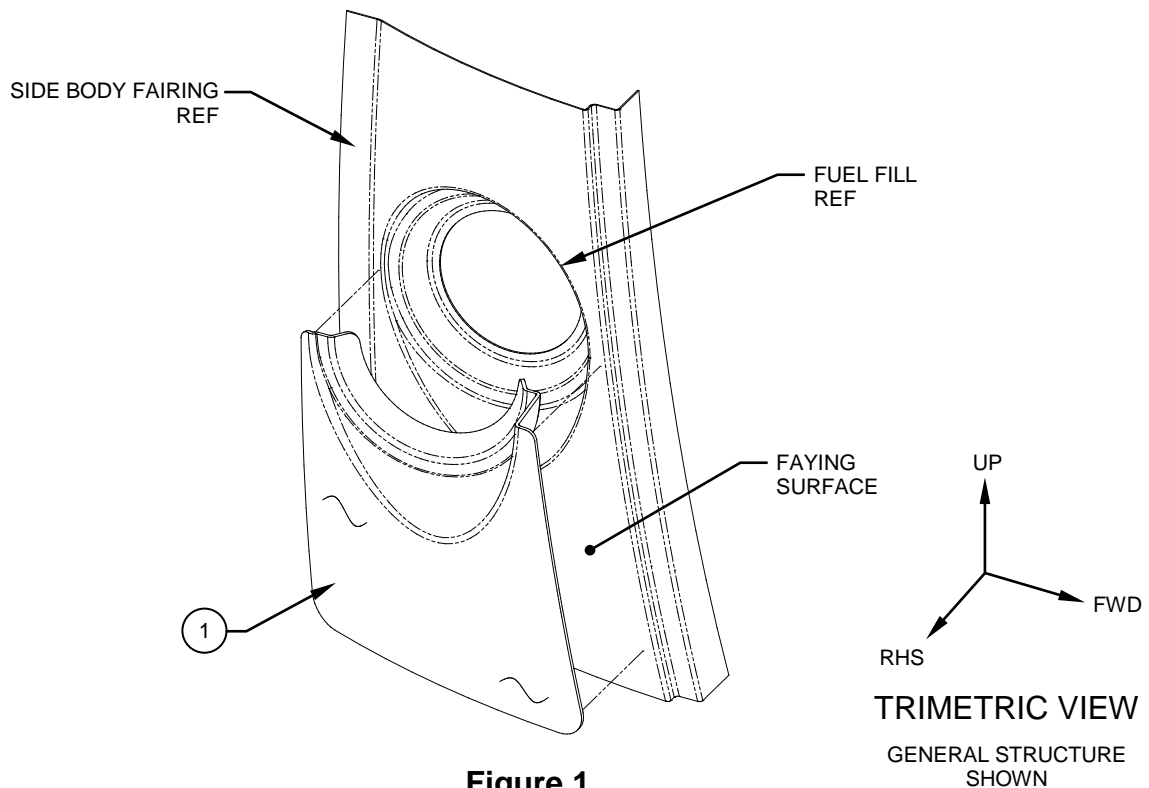

Figure 1
1. Temporarily install the Panel Guard, Detail, Item 1, as shown and mark its perimeter on the Side Body Fairing. Reference Figure 1.